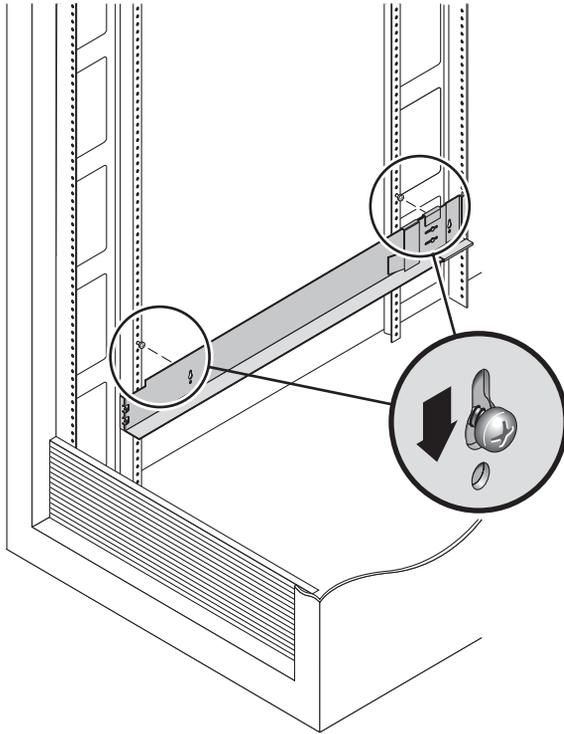

FIGURE 2-4 Aligning the Large Slot of the Left Rail
3. Hang the left rail by aligning the large slot of the left rail over the front and back screws and pull the rail down to position each screw in the smaller end of the slot (FIGURE 2-4). Repeat for the right rail.